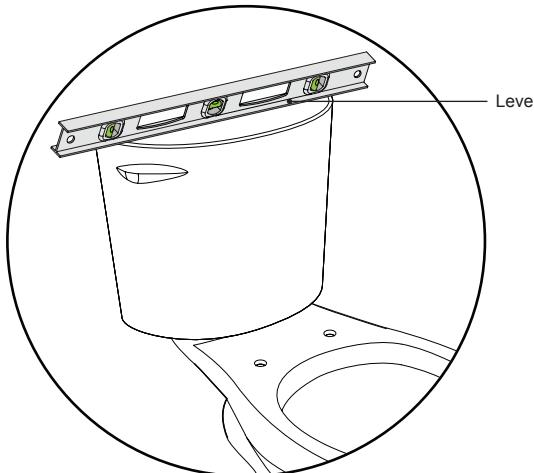

Figure 12
- ⑥** When complete, place a level across the top of the tank (Figure 12). The tank should be level. If it is not, make necessary adjustments at this time.